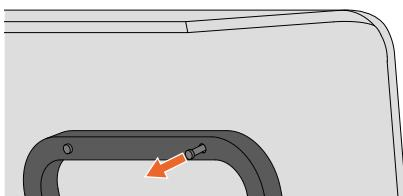

Figure 2 - Removing bolt from backrest.
3. Loosen the bolt and washer from the rear of the bench, as shown in figure 2.